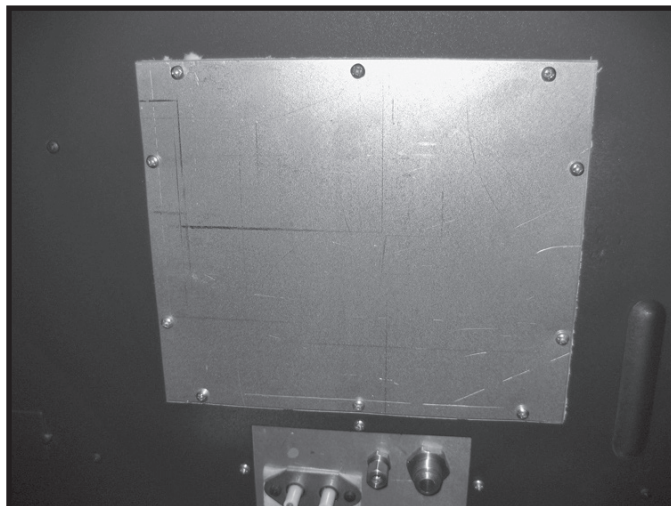

Figure 5: Access cover to valve control center.
3. Remove access cover to the valve control center from right side of firebox (Figure 5)
7. Reinstall the valve control center access panel (See Figure 5 on page 3).